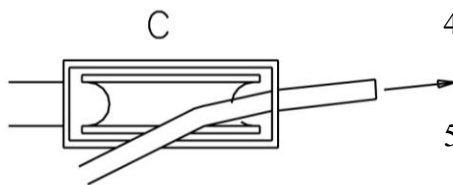

Fig 2
4. Pass side P2 of cable to pulley C. (Fig 2)